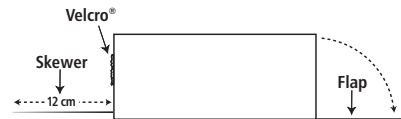

Figure 5
4. Poke a skewer through the front end of shoe box close to the bottom of the box and centered directly beneath the Velcro® strip, extending the skewer about 12 cm beyond the edge of the box. See figure 5.